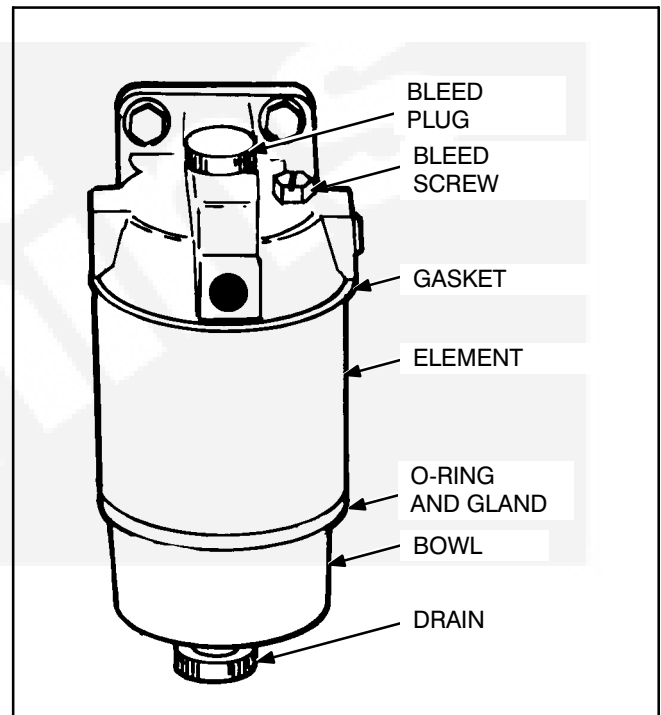

FIGURE 10. FUEL FILTER ASSEMBLY
1. Open the drain valve and bleed plug on the fuel filter assembly (Figure 10). Collect fuel in a suitable container and dispose of properly.